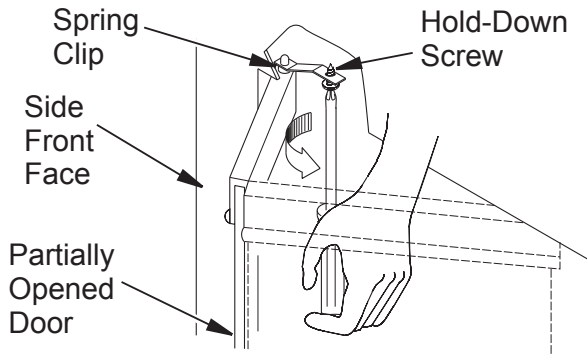

Figure 34 - Adjusting Glass Doors
7. To adjust doors, slide them partially open. Using a screwdriver, loosen hold-down screws in the spring clip (see Figure 34, page 15) and pivot plate.